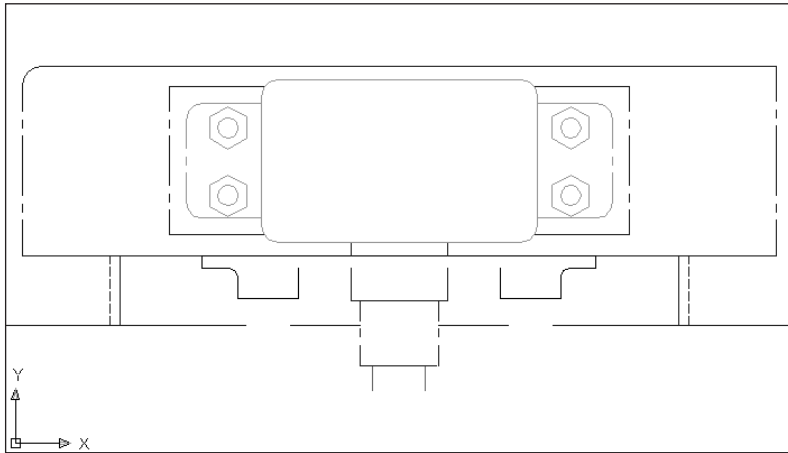

Figure 10-34: The filleted drawing
8. Save your drawing. It should look like Figure 10-34.